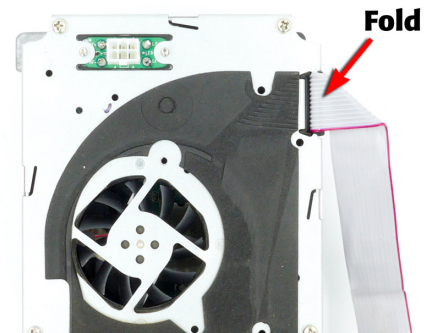

Figure 6.2.3 - Folding AMP/PSU ribbon.
5. Carefully move the large ribbon cable and fold it over the right side of the amplifier module as shown in Figure 6.2.3.